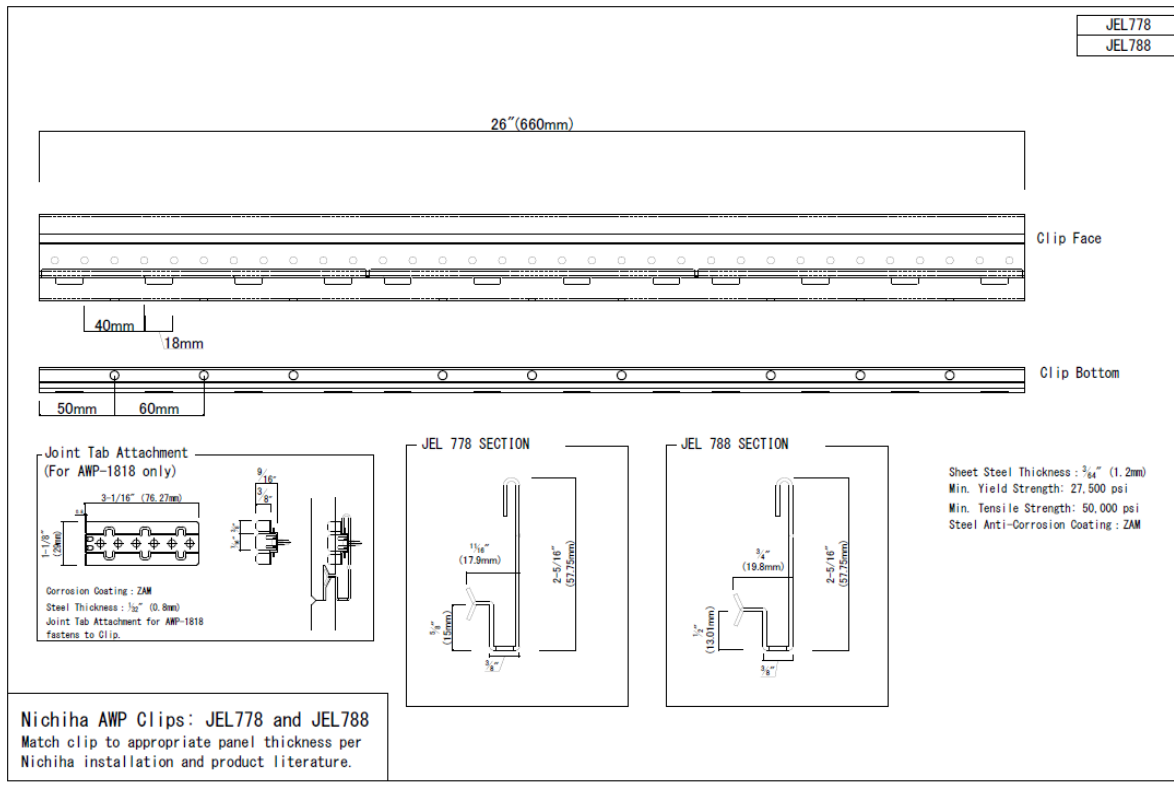
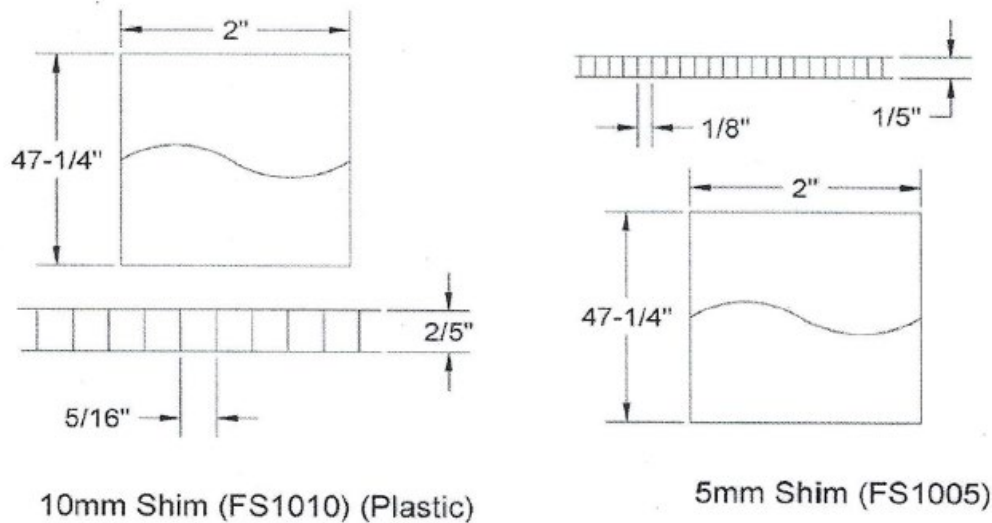

Figure 1 – Panel Clip Details
Figure 4 – Corrugated Shim Details
4. Refer to Fig. 1 through Fig. 4 for Nichiha Clip System Details.
- 8, Refer to Figs. 1 through 6 for Nichiha Clip System Details.